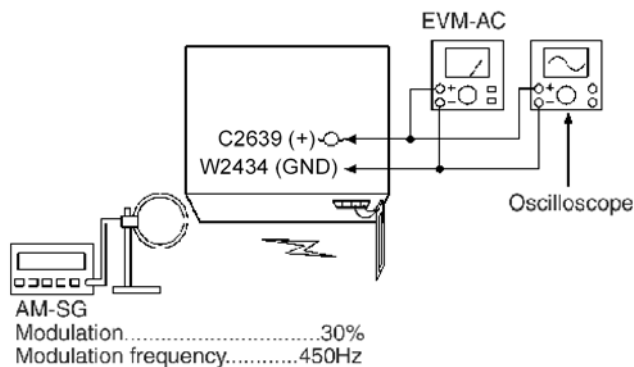

Fig. 5
1. Connect the instrument as shown in Fig. 5.
3. Apply signal as shown in Fig. 5 from AM-SG.